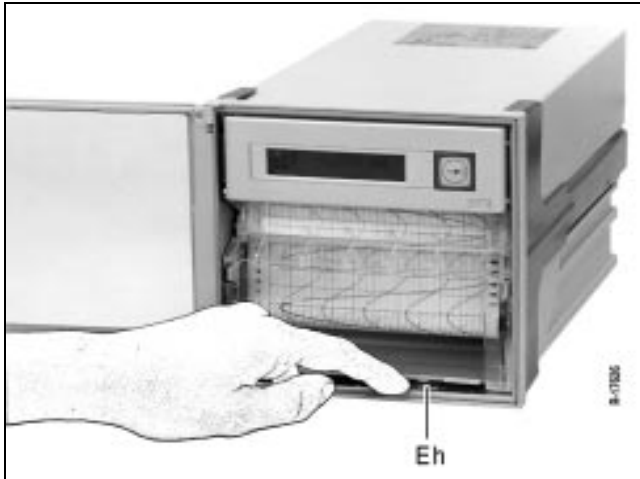

Fig. 1 How to pull out chart unit
1. Press down the release lever *Eh* (see figure 1). The chart unit swings off.